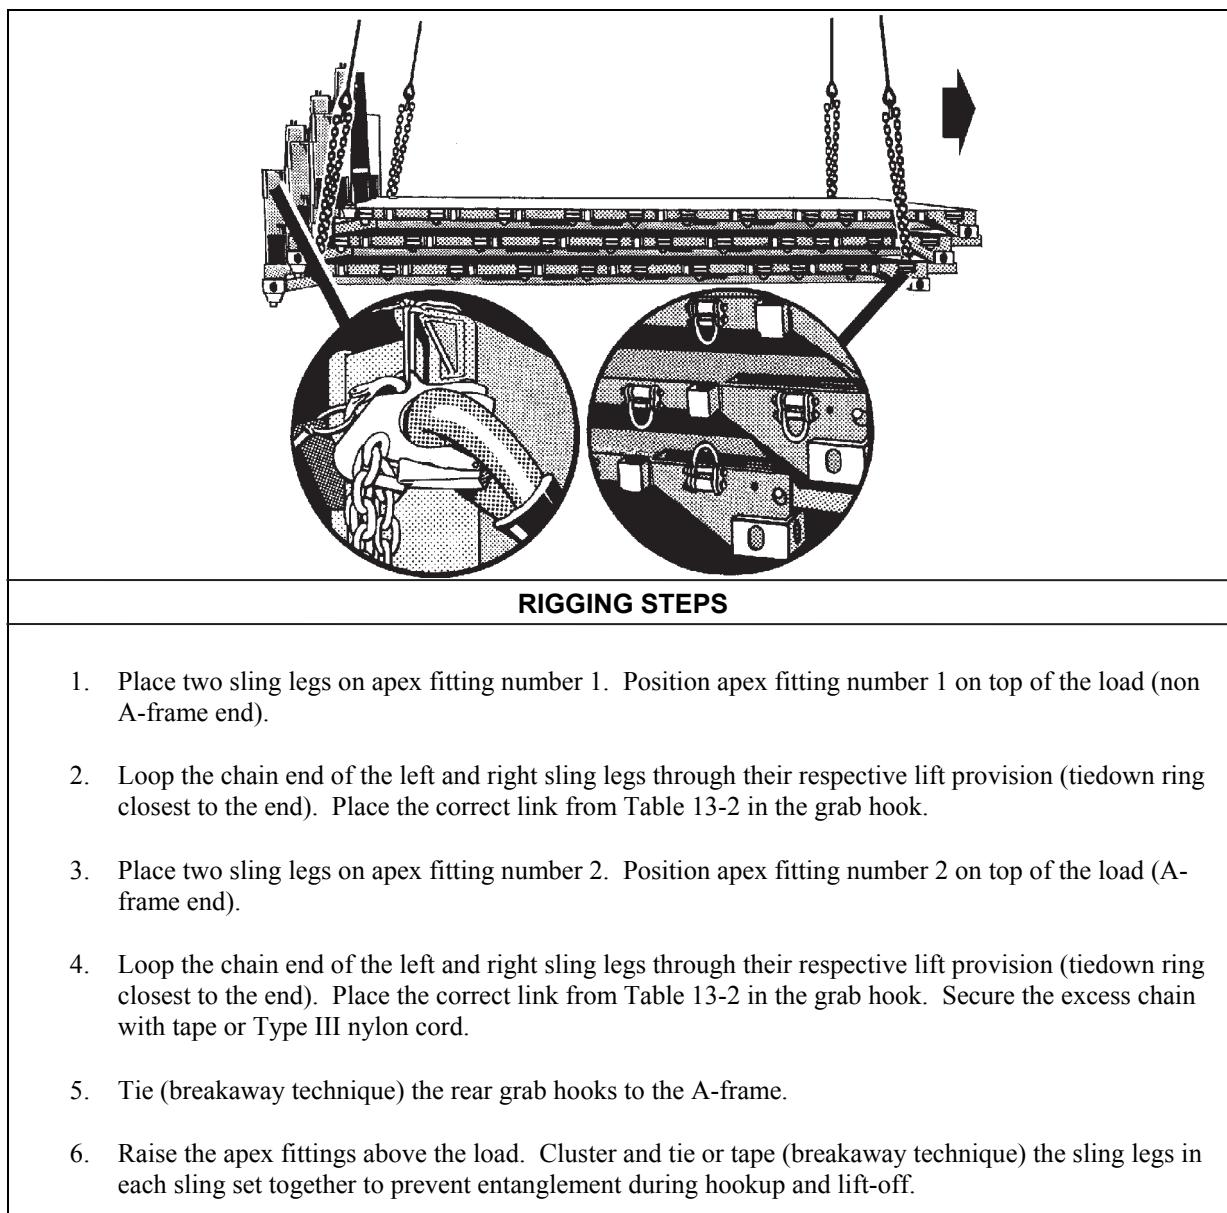

Figure 13-2. Palletized Loading System, M1077 Flatrack, Empty
- **Rigging.** Rig the load according to the steps in Figure 13-2.